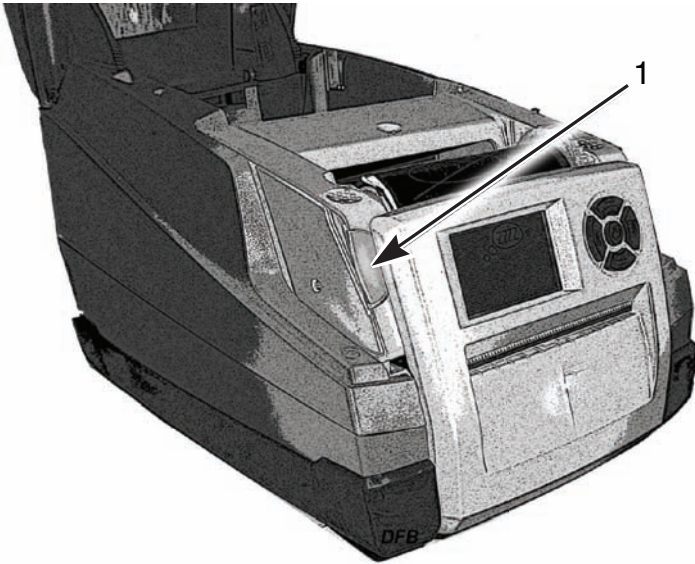

Figure 3, Ribbon Carrier Release Button
2. Press the ribbon carrier release button (**Figure 3, 1**).